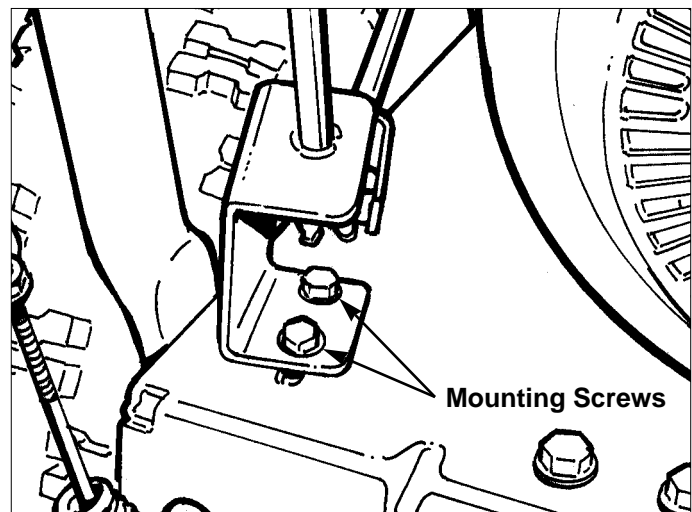

Figure 29. Chute Direction Control Rod Gear Adjustments
1. Loosen the gear bracket mounting screws (Figure 29).